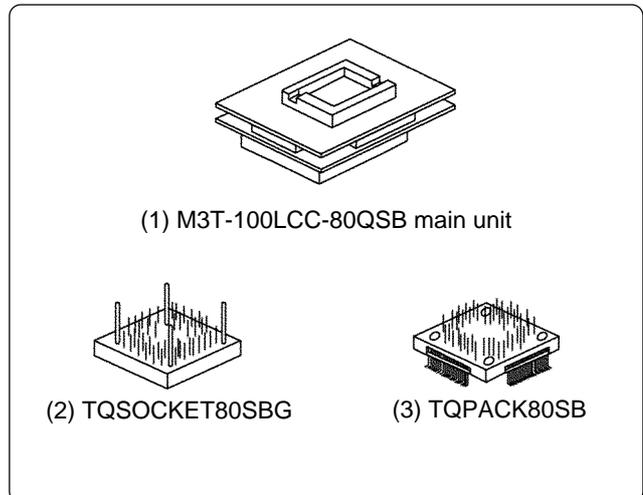

Figure 1 Package components of the M3T-100LCC-80QSB
2. Package Components (See Figure 1)